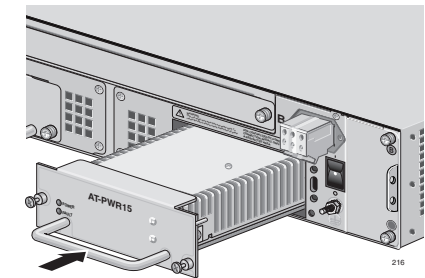

Figure 4. Inserting the AT-PWR15 Module into the Power Supply Slot
4. Slide the AT-PWR15 module into the RPS slot, as shown in Figure 4.